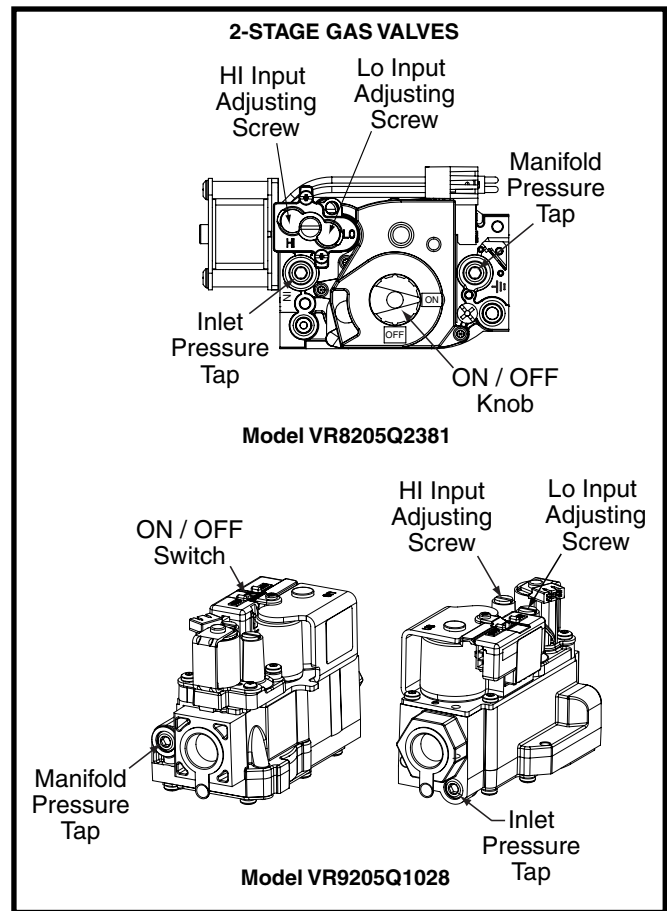

Figure 27. HI & LO Input Adjusting Screws
- c. Using an Allen wrench, turn the the LO Input Adjusting Screw on the LO side of the regulator to adjust the reduced input setting or turn the HI Input Adjusting Screw on the side of the regulator to adjust the full input setting. See Figure 27. **NOTE:** Turning the adjusting screw clockwise increases the pressure and counterclockwise reduces the pressure.